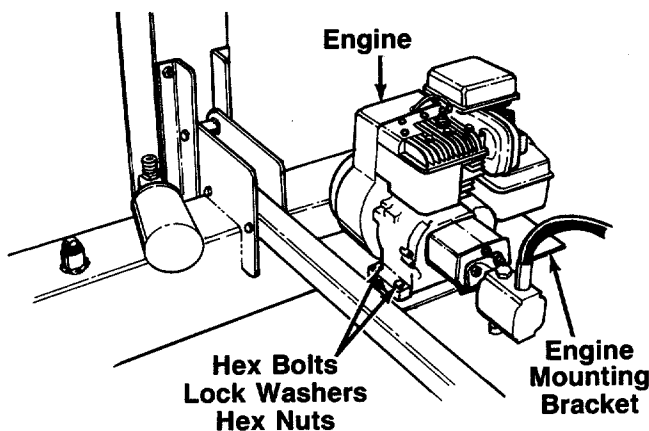

FIGURE 8.
- Place the engine and pump assembly in position on the engine mounting bracket as shown in figure 8.